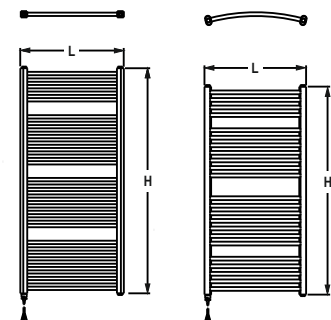

Fig.3
- Operating position Vertical with power cable at the bottom – this applies for KORALUX radiators (see Fig. 3)